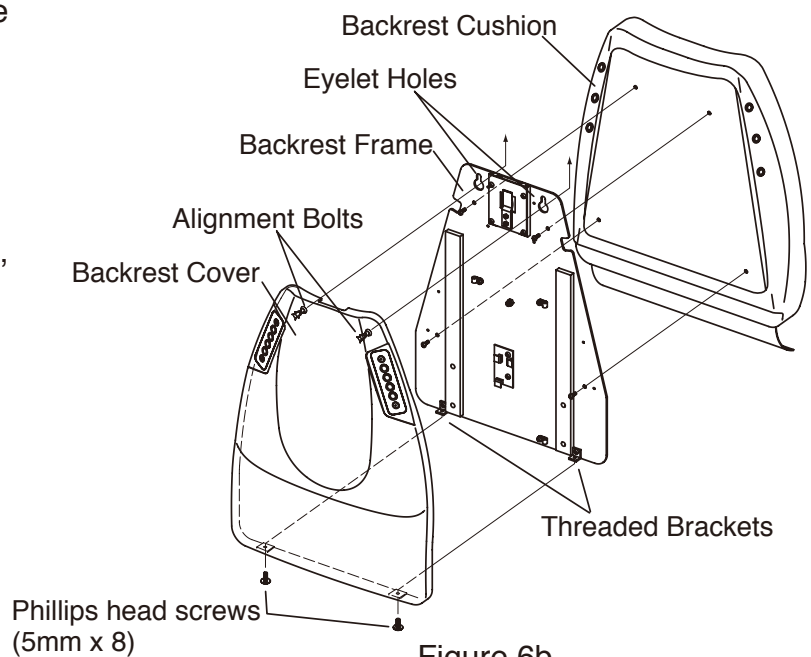

Figure 6b
- c) Secure backrest cover to backrest frame using 2 (5mm x 8) phillips head screws, as shown in figure 6b.